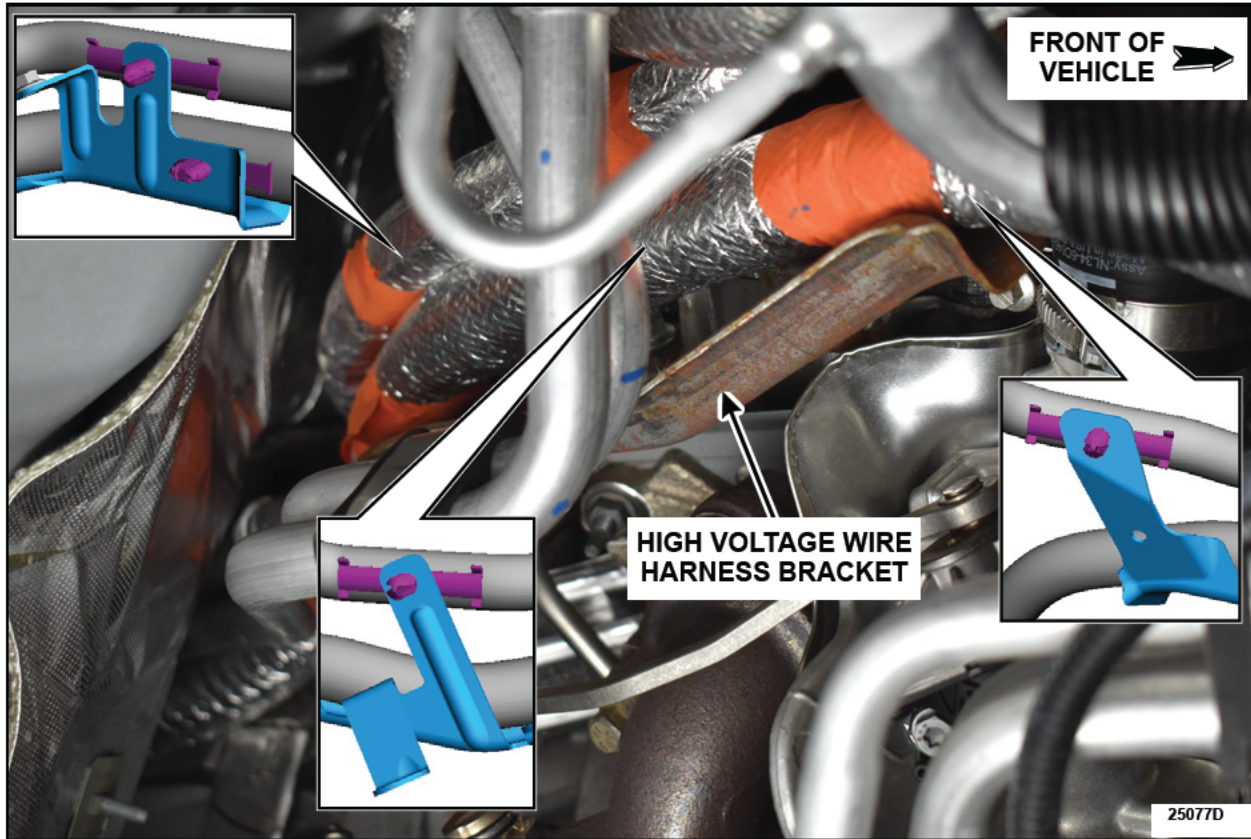

FIGURE 4
13. Detach the 4 high voltage wire harness push pin retainers from the high voltage wire harness bracket. See Figure 4.